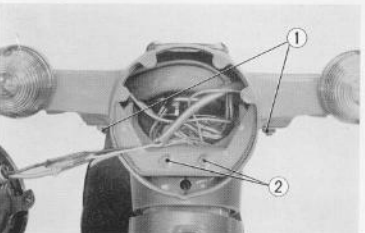

Fig. 4.13 Removing handle setting bolts
5. Unscrew the two top bridge setting bolts ② from within the headlight case and remove the two 8 mm handle setting nuts ①. (C 90) (Fig. 4.13) and lift off the handle together with the cables and leads.